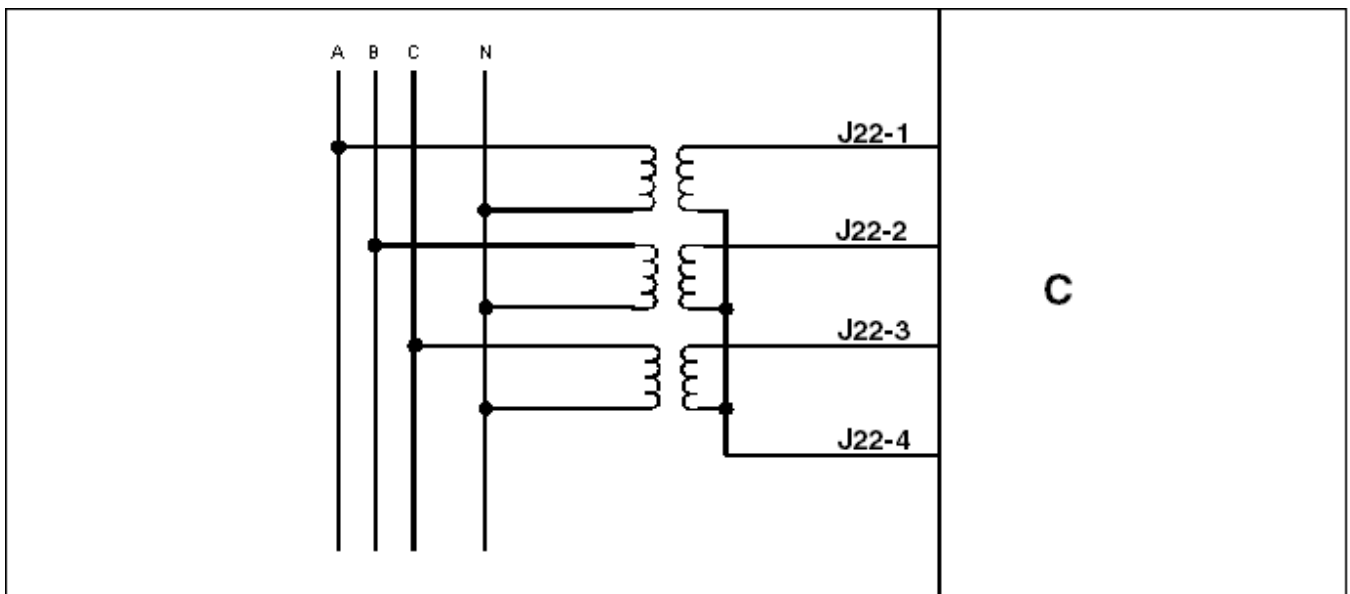

FIGURE 81. POTENTIAL TRANSFORMER CONNECTIONS IN 4-WIRE CONNECTIONS
- Figure 81. Potential transformer Connections in 4-wire Connections 455